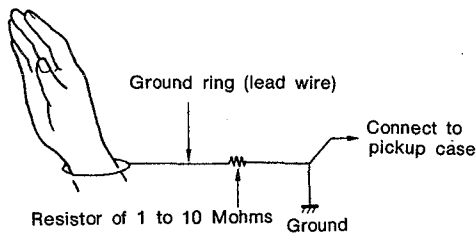

Fig. 11
(2) Handling the unit mechanism (Fig. 11)
When handling the pickup mechanism and the unit mechanism, use a ground ring as the one illustrated in Fig. 11. (A ground ring can be constructed using ordinary lead wire.)